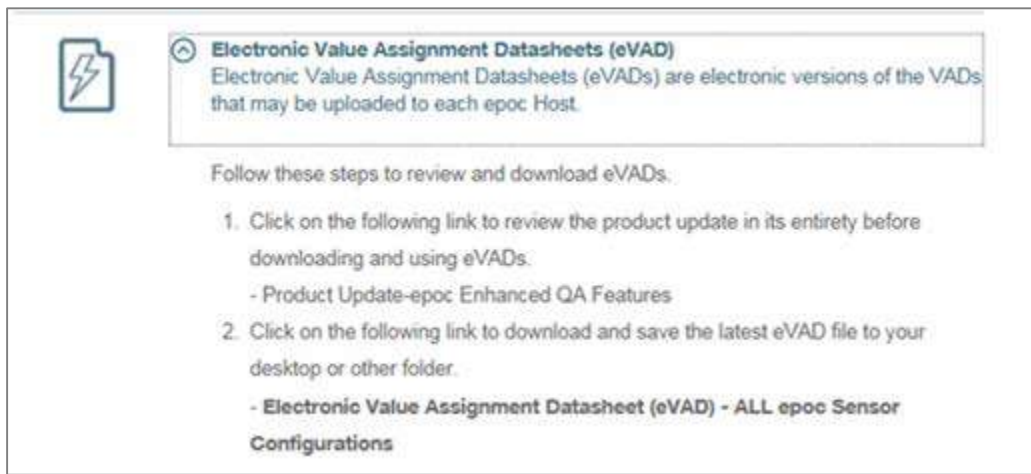

Fig. 4.
2. Follow the instructions (Fig. 4) to download the eVAD file to your desktop.